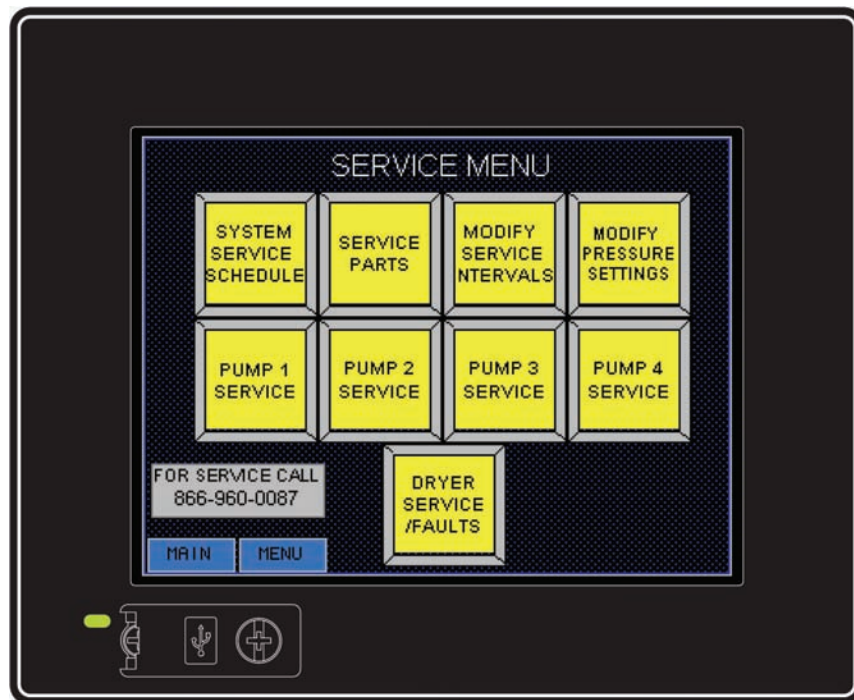

FIG 3.3.4.a. Service Screen
3. “SYSTEM SERVICE SCHEDULE” button will display a new window listing the service items, when they are due to be serviced and the last time service was performed on that item (See FIG 3.3.4.b). The buttons shown at the bottom of the screen allows the operator to navigate between the individual compressor units (unit #1, unit #2) and the overall system service screen. The Log-in button is used to enter a password for access to the reset buttons.
5. The “SYSTEM SERVICE SCHEDULE” (FIG 3.3.4.b.) screen can be accessed from the main service menu screen or from the service due button on the main screen (if that button is flashing yellow).